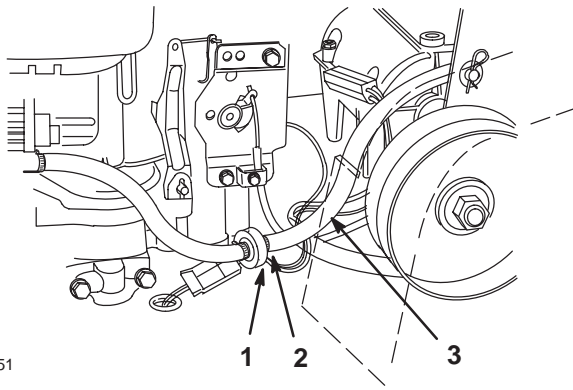

Figure 34
3. Squeeze the ends of the hose clamps together and slide them away from the filter (Fig. 34).